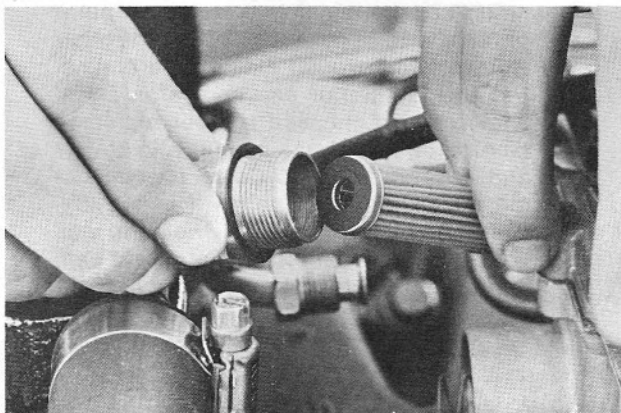

Figure 24
- C. Discard old gasoline filter and install new one, positioning it against compression spring. Note: Make certain that gasket end of filter element is facing out of the carburetor body (Figure 24).